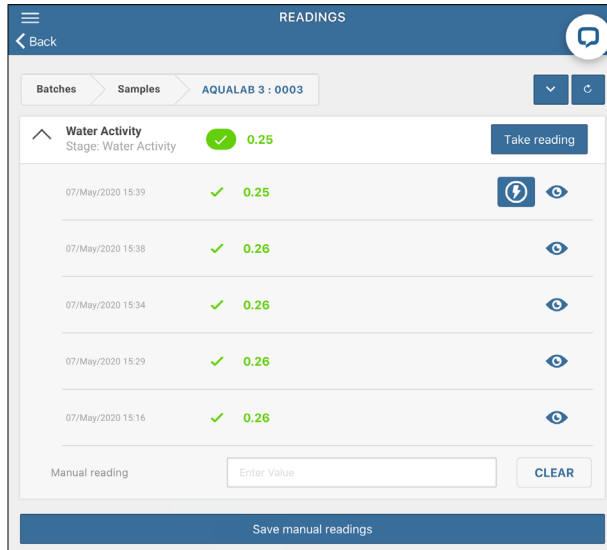

Figure 50 Take reading on Readings window
6. Select the **Take reading** button to start the reading process (Figure 50).